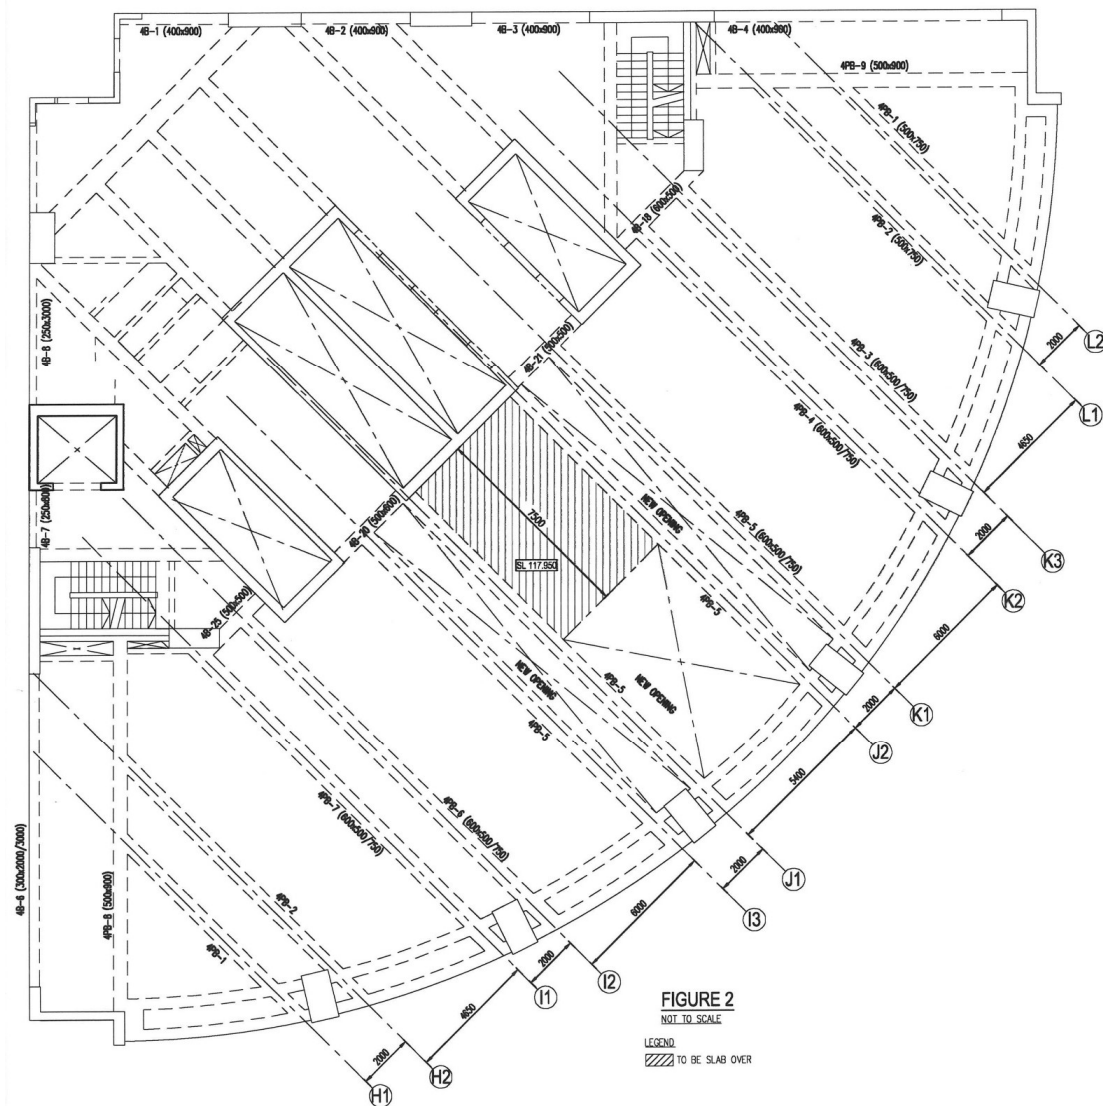

Figure Q1-2
- (b) After Temporary Occupation Permit (TOP) has been obtained, one of the tenants would like to create a lounge space for his unit. He would like to reduce the opening by half as shown in Figure Q1-2.